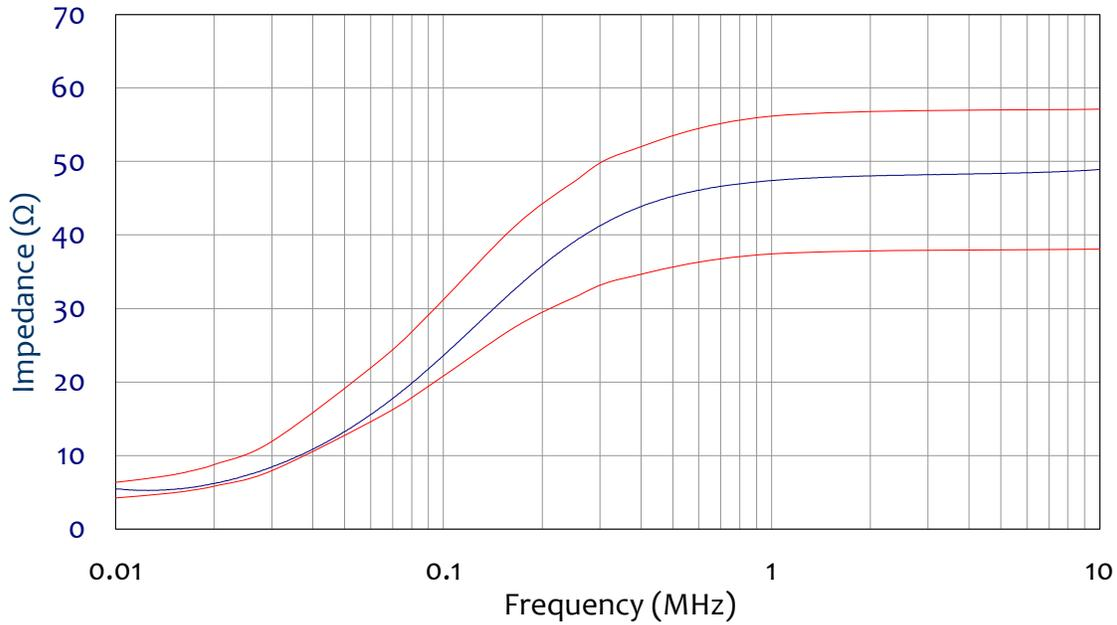

Figure 6: Typical Impedance compared to Mil-Std requirements
*The LI-400C is based on the 50  $\mu$ H LISN circuit and component values (Figure 6) specified in Mil-Std 461G REQUIREMENTS FOR THE CONTROL OF ELECTROMAGNETIC INTERFERENCE CHARACTERISTICS OF SUBSYSTEMS AND EQUIPMENT*